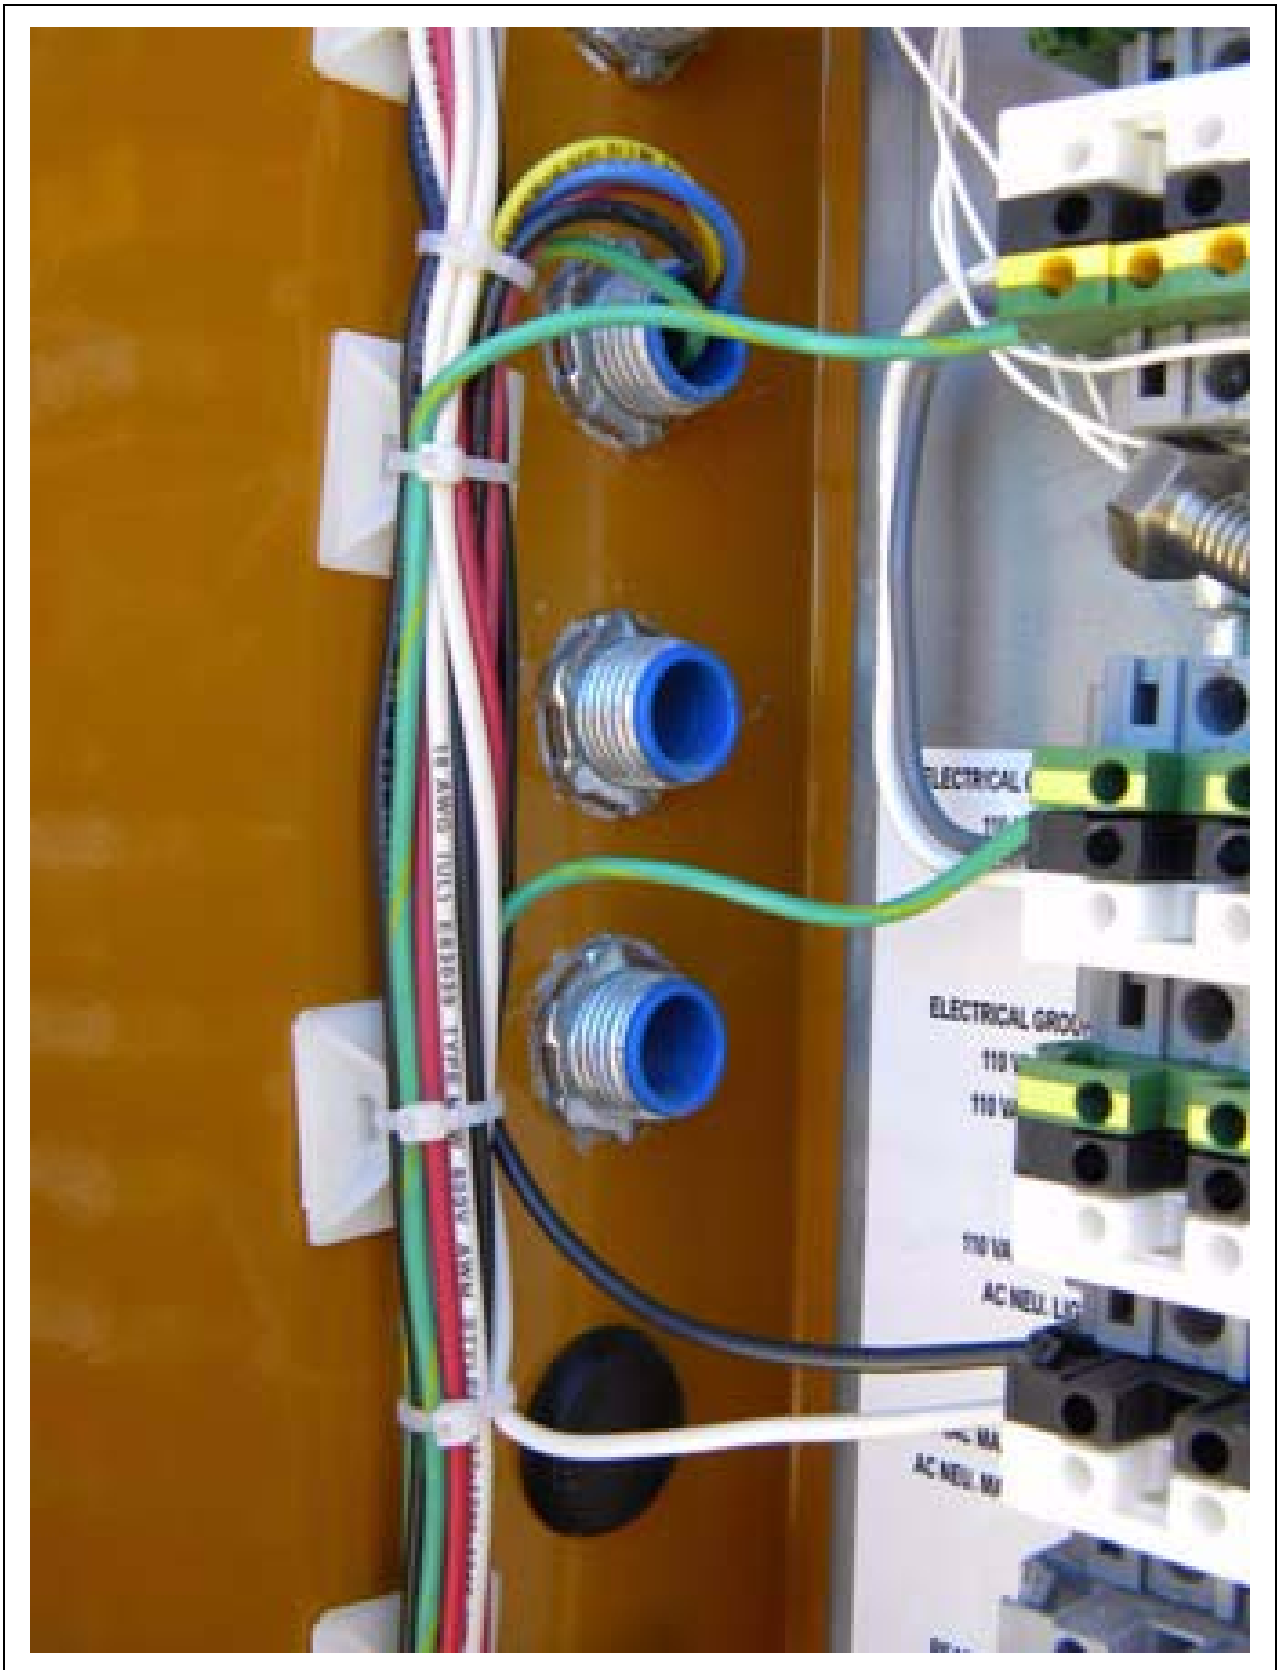

Figure 10F
1. From inside the burner/blower module, the flame rod wire and the spark plug wire will be passed through these holes as shown in Figure 10F.